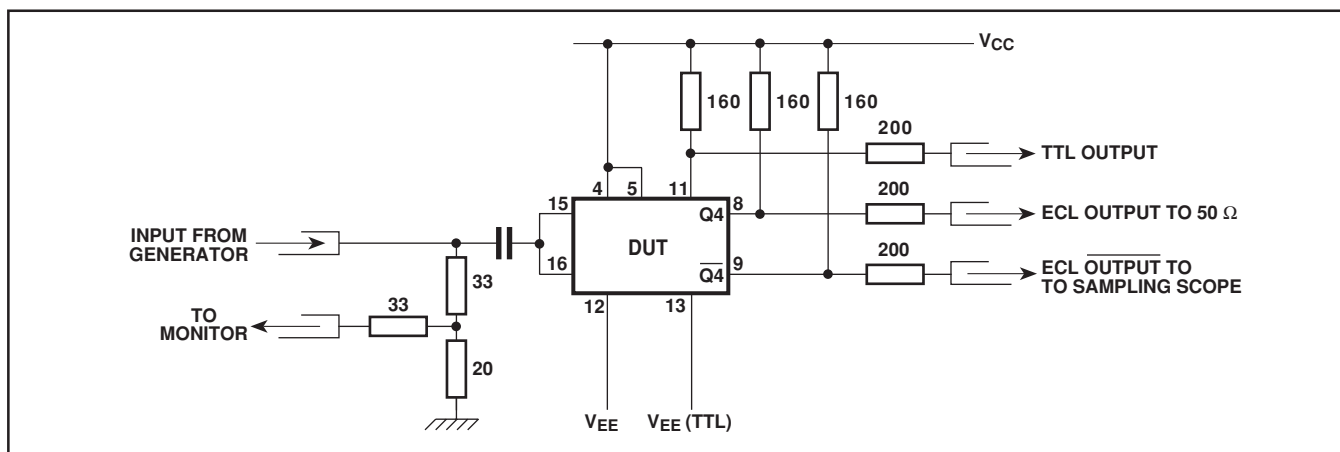

Fig. 5 Test circuit
7. Input impedance is a function of frequency. See Fig. 5.